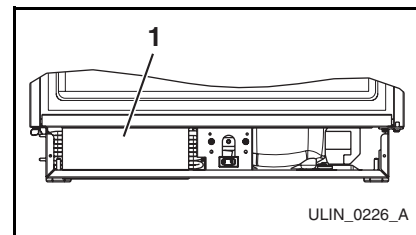

Figure 12
5. Clean condenser coil (**Figure 12, 1**) using a soft brush with a "combing" action or vacuum cleaner. Do not touch condenser coil.